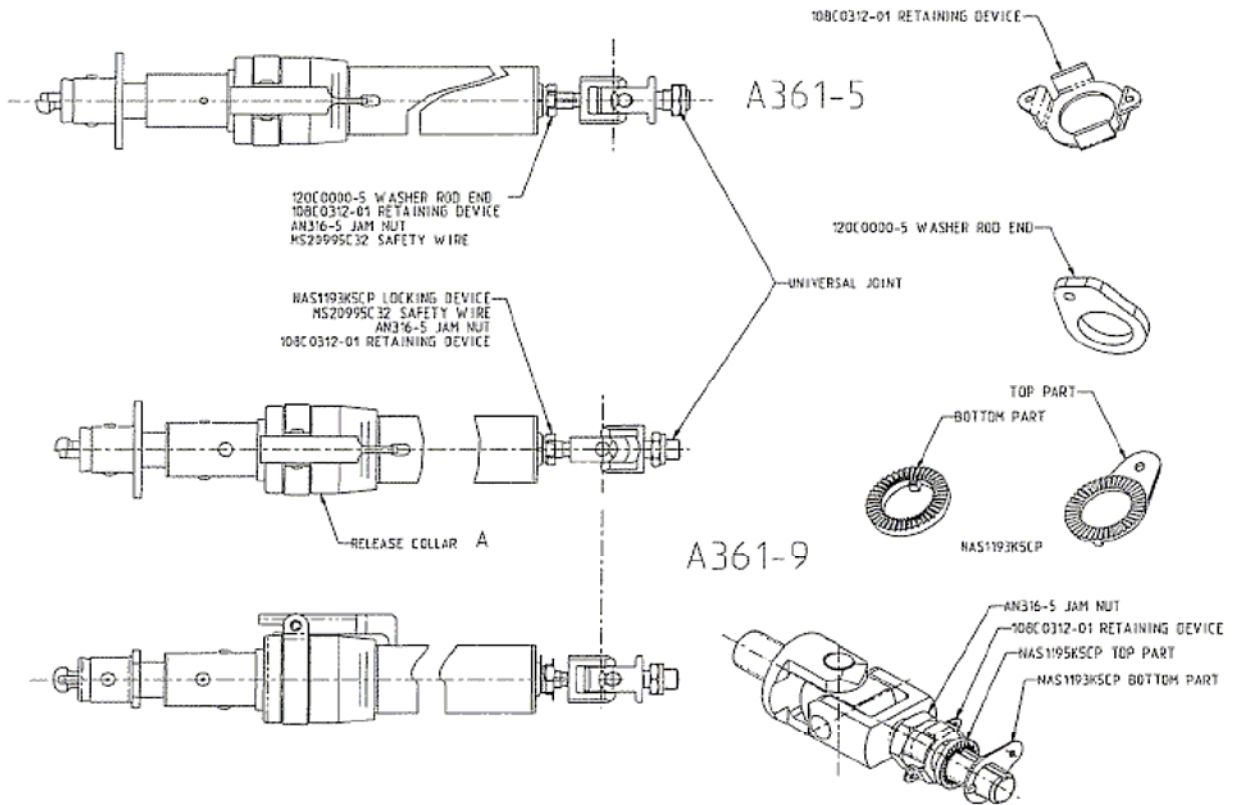

FIGURE 1
#### A. Disassembly (See Figure 1)
#### B. Assembly (See Figure 1)
- (6) Thread universal into strut end fitting by rotating clockwise.
- (7) Continue rotating until extended and locked length of  $43.00 \pm .06$  is obtained.
- (8) Adjust position of universal joint as shown on figure 1.
- (9) Engage key on top part of NAS1193K5CP with slot in strut end fitting
- (10) Engage serrations of bottom part with top part.
- (11) Rotate jam nut AN316-5 and retaining device 108C0312-01 together clockwise until contact with NAS1193K5CP is made.
- (12) Torque jam nut AN316C5 to 30/50 lb.-in.
- (13) Install new safety wire MS20995C32 in accordance with MS33540.